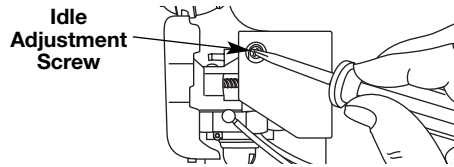

Fig. 31
The idle speed of the engine is adjustable. An idle adjustment screw is reached through a hole in the top of the engine cover (Fig. 31).
- Release the throttle trigger and let the engine idle. If the engine stops, insert a small phillips or flat blade screwdriver into the hole in the air filter/muffler cover (Fig. 31). Turn the idle speed screw in, **clockwise**, 1/8 of a turn at a time (as needed) until the engine idles smoothly.